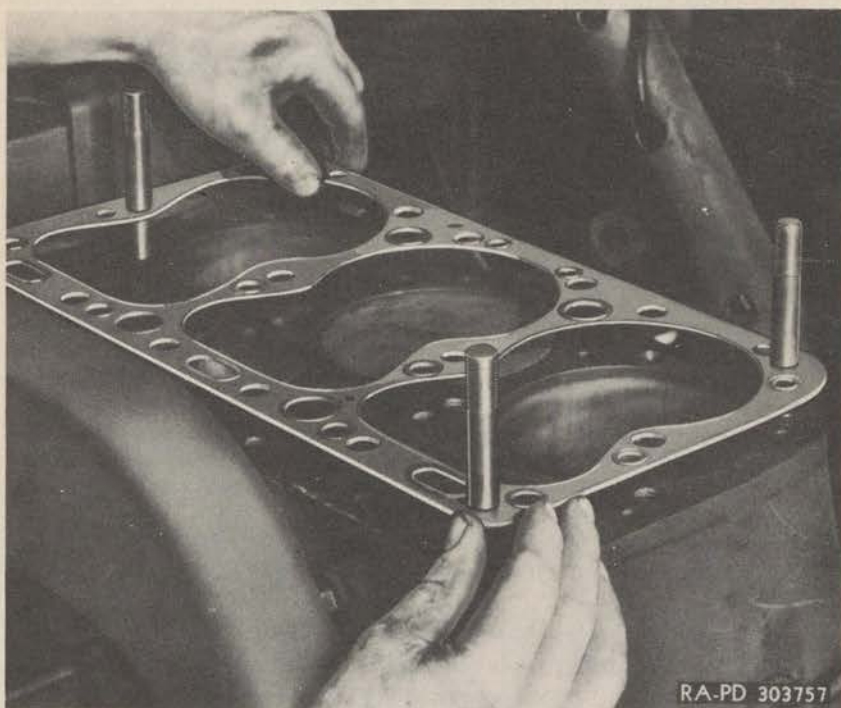

Figure 47—Installing Cylinder Head Gasket
c. **Install Front Cylinder Head and Gasket.** Install the front cylinder head gasket over the pilot studs (fig. 47). Lift the front cylinder head and install it over the pilot studs. Drop the cylinder head cap screws into the cap screw holes in the head, and start the threads by screwing in with the fingers. Remove the three pilot studs. **CAUTION:** *If pilot studs are not available, great care must be exercised in this installation.*